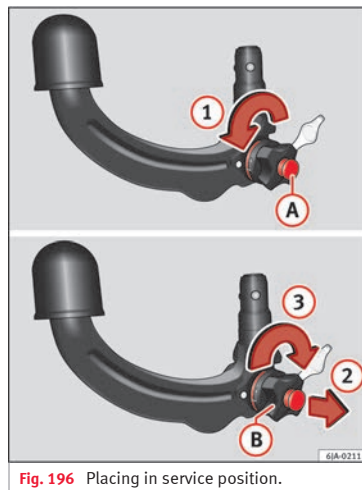

Fig. 196 Placing in service position.
- Turn key ① fully in the direction of arrow ① » **Fig. 196**.
- Pull manual regulator ② outward in the direction of arrow ② and turn it fully in the direction of arrow ③.